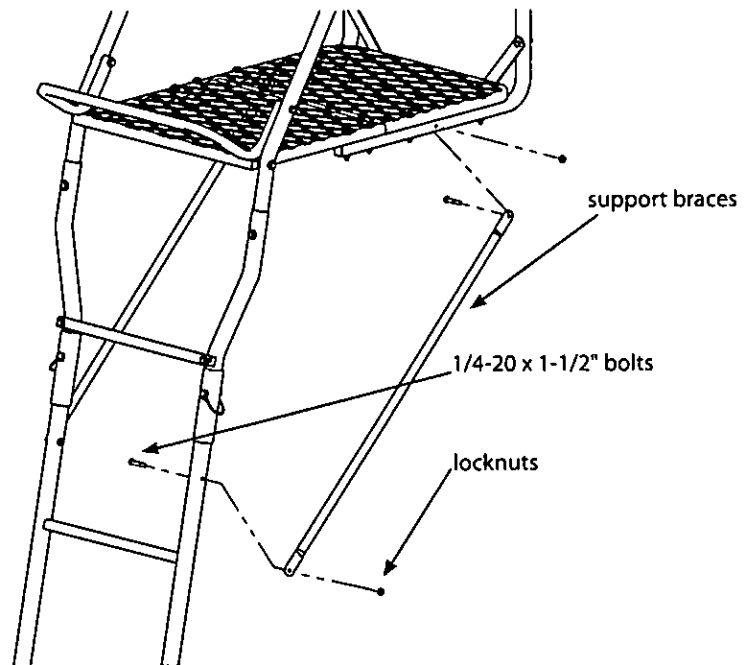

Figure 12
17. Attach the (2) support braces (410024) to the inside of platform support rails and outside of top ladder section w/ mounting holes using (4) provided 1/4-20 x 1-1/2" bolts and locknuts. **SEE FIGURE 12. Tighten securely. Be sure not to over tighten or crush tubing when tightening!**